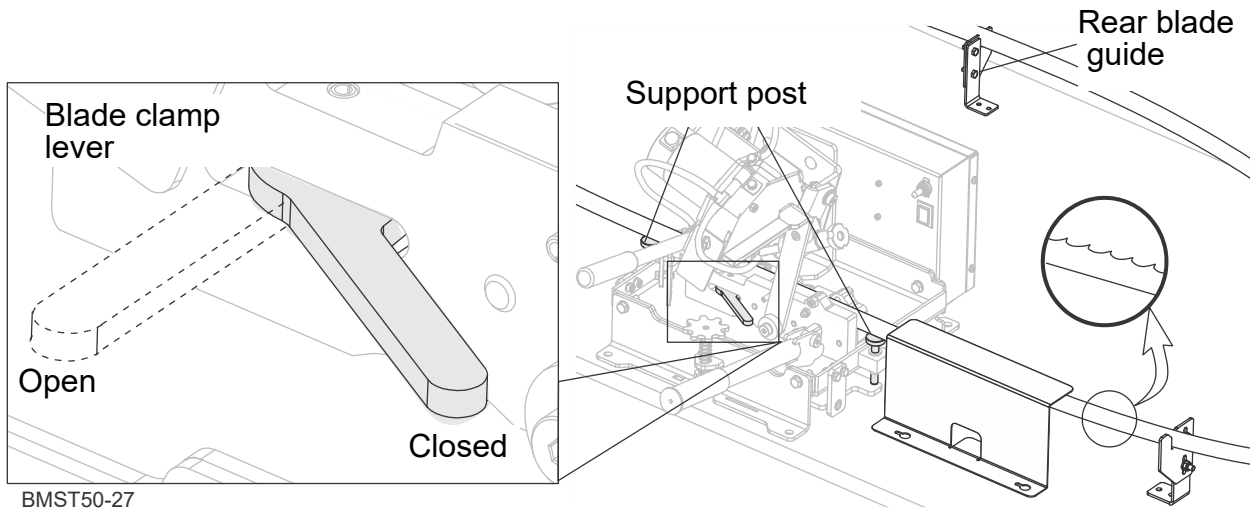
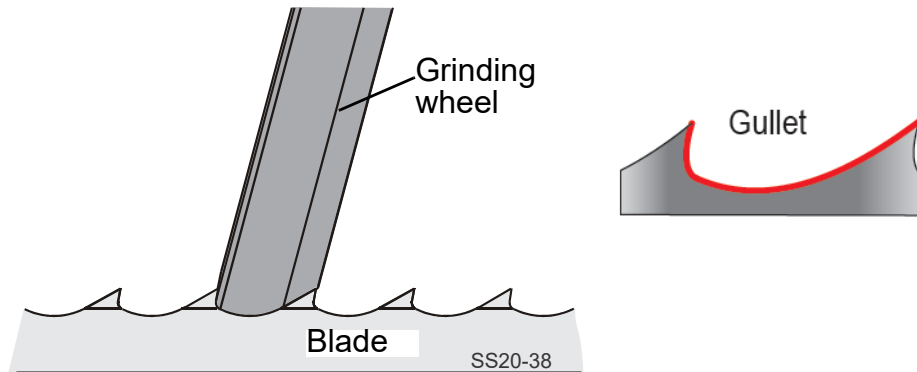

FIG. 3-2
FIG. 3-4
2. Mount the blade in the Sharpener & Setter. Open the blade clamp and place blade between the clamping plates with the blade's bottom edge on the blade support posts. Adjust the height of the rear guide so the bottom of the blade is approximately level with the blade's bottom edge in the sharpener. See fig. 3-4.
1. **Open the blade clamp and adjust the blade in the left-right orientation.** Raise or lower the blade so the bottom of the gullet is level with the clamp or slightly above. Lower the grinding wheel to align the blade in the gullet of the blade tooth. See fig. 3-4 and 3-5. Close the blade clamp lever to hold the blade accurately in place.
3. **Recheck the blade in the left-right orientation.** Lower the grinding wheel to align the blade in the gullet of the blade tooth. See fig. 3-4. Close the blade clamp lever to hold the blade accurately in place. See fig. 3-2.
- Tighten the adjustment knobs to hold the push pawl pin in this position. Advance one tooth by moving the push pawl handle left and right. See fig. 3-8 . Recheck the position with the grinding wheel. See fig. 3-4 .